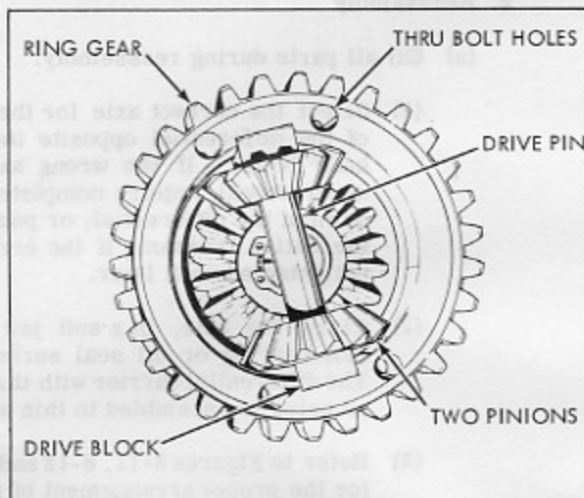

Figure 8-15 Differential Assembly (One Carrier Removed)
- Remove the four hex head bolts and the upper axle and differential carrier. Remove the drive blocks, pinions, drive pin and thrust spacer if used, by lifting out of the ring gear. Tap the ring gear lightly with a mallet to loosen from the differential carrier. Figure 8-15.